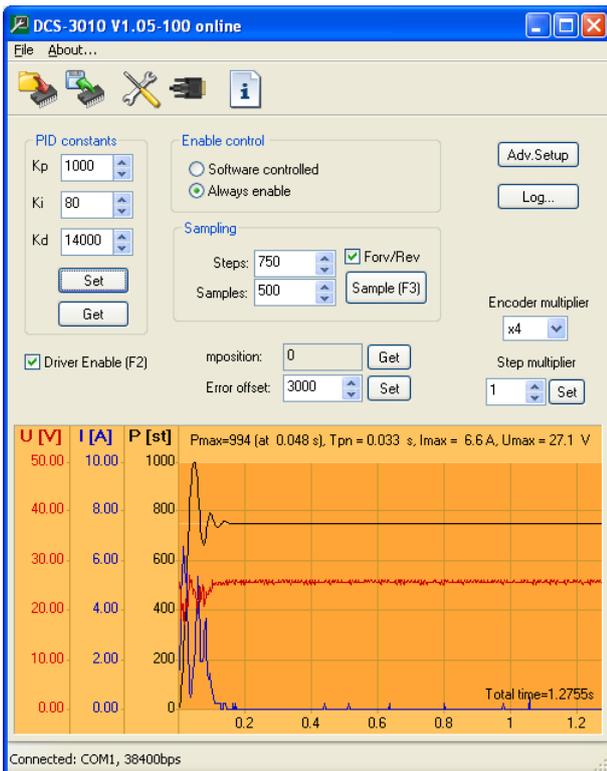

Figure 10.3
**STEP 3:** Gradually increase the constants  $K_p$  and  $K_i$  to the response as shown in Figure 10.3. Here it should be noted that the constant  $K_i$  is much smaller compared to the other two constants.